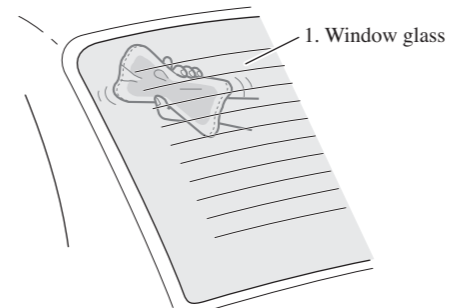

Fig. 8
2. Remove dirt and oil from the window with the supplied cleaner. (Fig. 8)